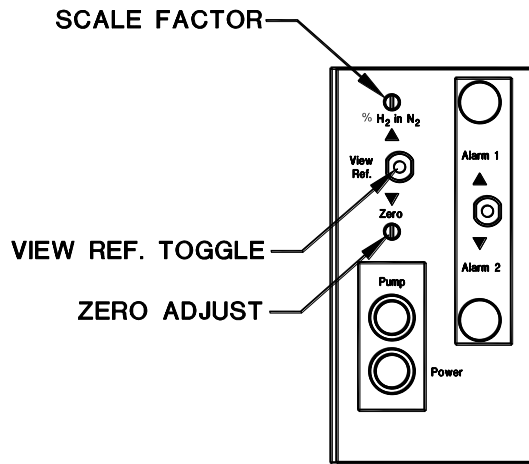

Figure 6: Gas Correction Factor Adjustment
- 2) Locate the View Ref. Toggle switch. See Figure 6.